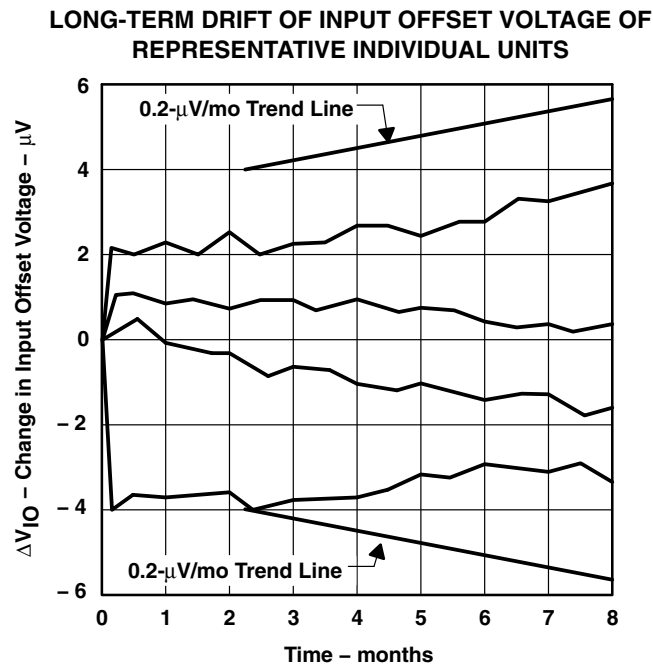

Figure 3
4. Long-term drift of input offset voltage refers to the average trend line of offset voltage versus time over extended periods after the first 30 days of operation. Excluding the initial hour of operation, changes in  $V_{IO}$  during the first 30 days are typically 2.5  $\mu\text{V}$  (see Figure 3).